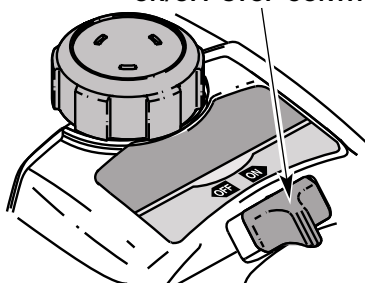
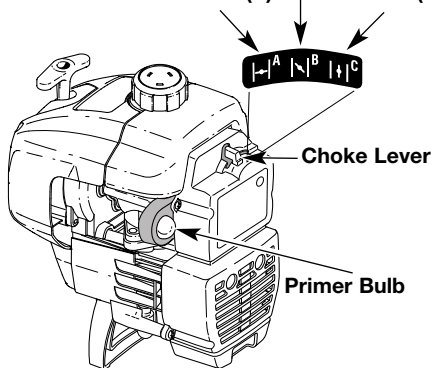

Fig. 7
Fig. 8
2. Put the On/Off Stop Control in the **ON** position (Fig. 7).
3. Fully press and release primer bulb 5 to 7 times. Fuel should be visible in the bulb (Fig. 8).
4. Place the choke lever in the **FULL** choke position (**A**) (Fig. 8).
6. Place the choke lever in the **PARTIAL** choke position (**B**) (Fig. 8).
9. Squeeze the throttle control to warm up engine for 5 to 10 seconds. Place the choke lever in the **RUN** position (**C**) (Fig. 8).
NOTE: Choking is unnecessary when starting a warm engine. Put the On/Off Stop Control in the **ON** position (Fig. 7), and start in with the choke in the **PARTIAL** position (**B**) (Fig. 8).
2. Put the On/Off Stop Control in the **OFF** position (Fig. 7).